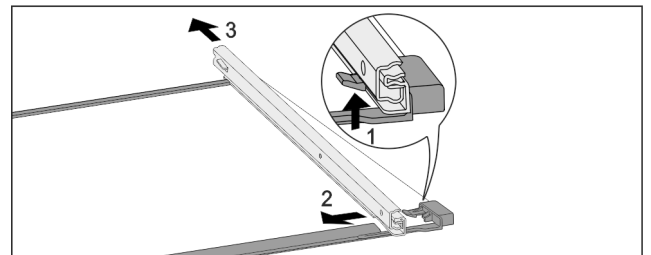

Fig. 129 Glass shelf with rails
- ▶ Push up front click-in hooks. Fig. 129 (1)
- ▶ Move the pull-out rails to the side Fig. 129 (2) and to the rear Fig. 129 (3).